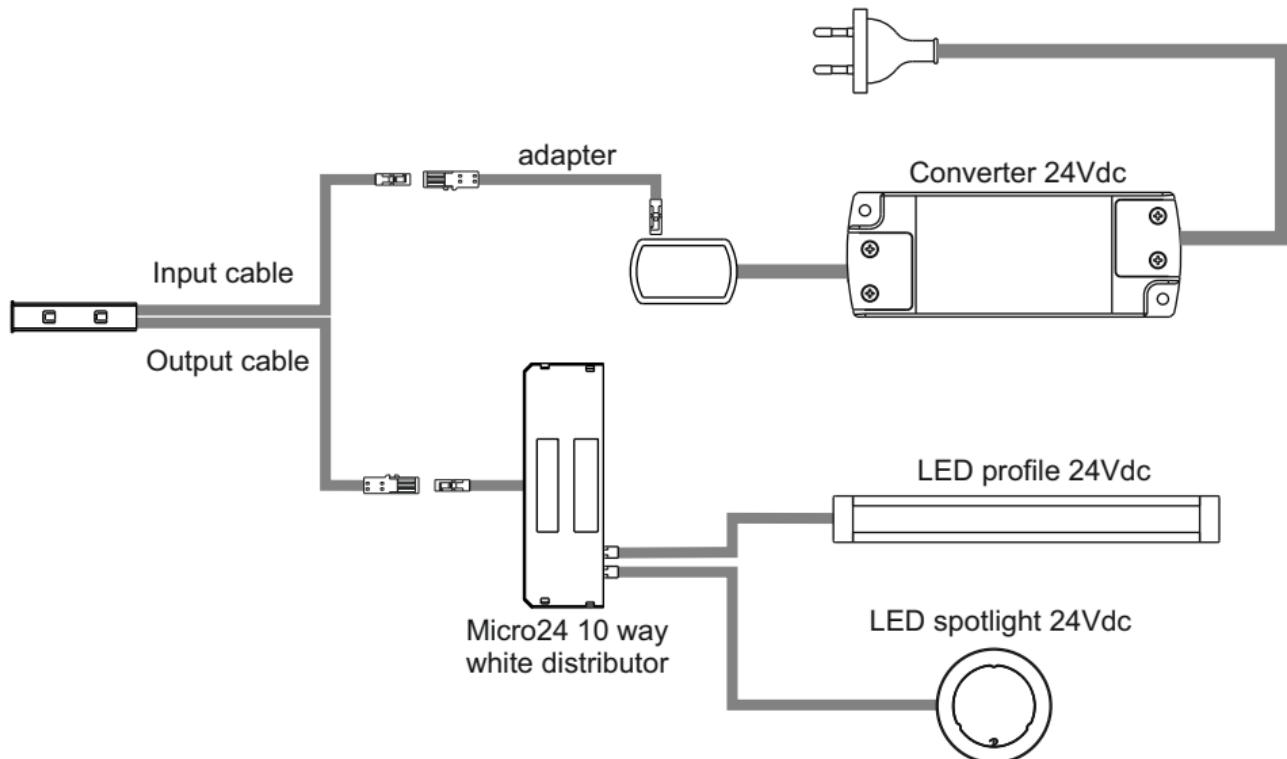

Fig. 6
- Connect the spotlights to the distributor (6), for a maximum of 36W if operating at 12Vdc or 72W if operating at 24Vdc.
- Connect the "in" connector (5) to a converter of 12Vdc (max. 36W) or 24Vdc (max. 72W) according to the type of load applied.
- For the connection of devices at 24Vdc, a set of cables which allows you to adapt the device to the Micro24 connection system (fig.6).